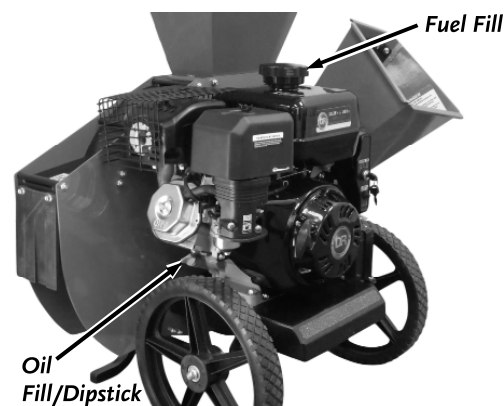

Figure 5
- Position the machine so the Engine is level. Remove the Oil Fill/Dipstick (**Figure 5**).
- Remove the Fuel Fill Cap (**Figure 5**) and fill the Fuel Tank with fresh, unleaded gas (with a minimum of 85 Octane) to approximately 1" to 1-1/2" below the top of the Fill Neck to allow for Fuel expansion. Be careful not to overfill.